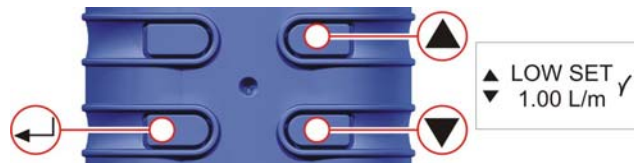

Figure 23 Low Set Screen
I. ADJUSTMENT OF LOW SET POINT (Fig. 23)